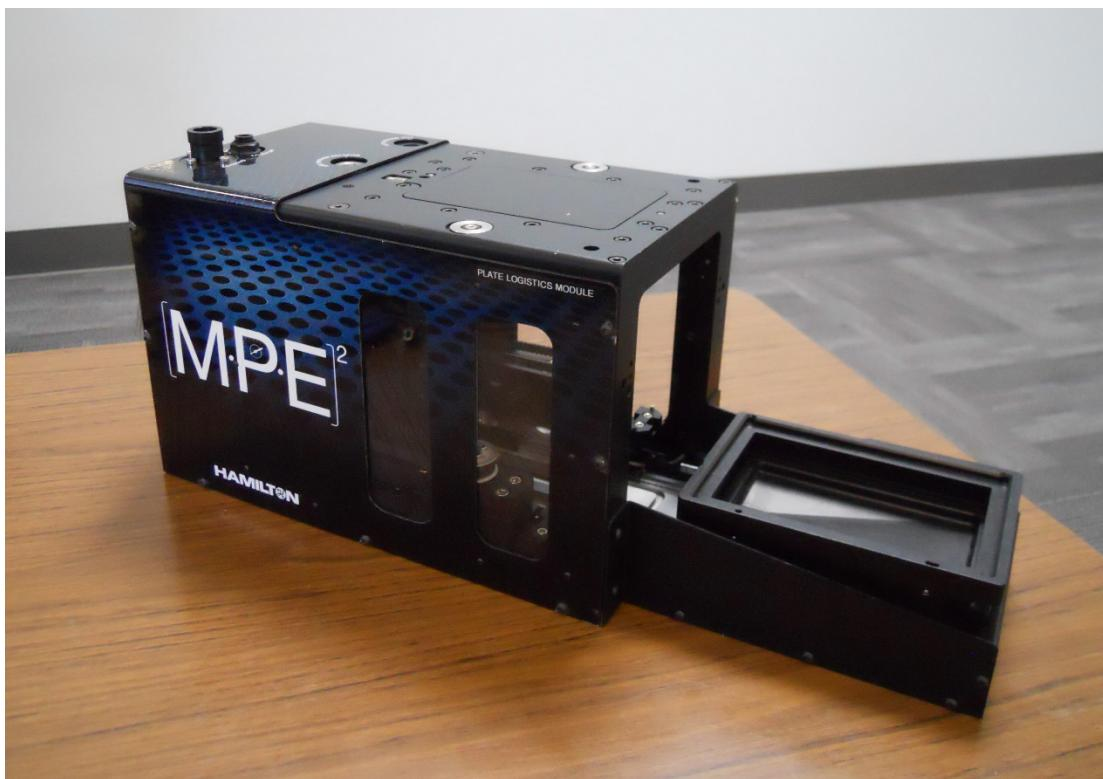

Figure 3-3: [MPE]2 Logistics Module
**The [MPE]2 Logistics Module uses a dual elevator system to handle and process samples.** The top elevator stage indicated in Figure 3-3 transports and seals labware (or the Evaporator Module) to the air manifold. The bottom elevator stage, located directly below the top stage in Figure 3-3, works in conjunction with the top elevator stage to transport liquid to a collection bottle. The bottom stage is connected to a pump in the Control Box, which works with a vacuum trap to capture the liquid as it moves toward the waste bottle. The bottom elevator stage also transports collection plates used during elution steps.